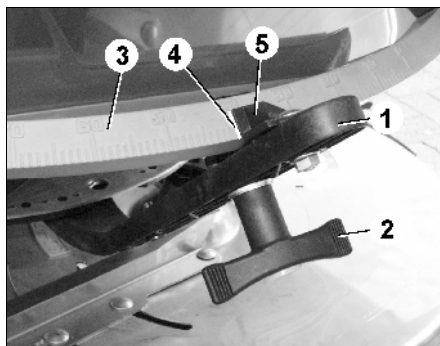

Fig. 29
The **shutter slide position** for the desired **spread rate** is set with the aid of the two setting levers (Fig. 29/1).
- Slacken the thumb nut (Fig. 29/2).
- Find the required shutter slide position on scale (Fig. 29/3)
- Set the read off edge (Fig. 29/4) of the setting lever pointer (Fig. 29/5) on to the scale figure.
- Firmly retighten the thumb nut (Fig. 29/2).